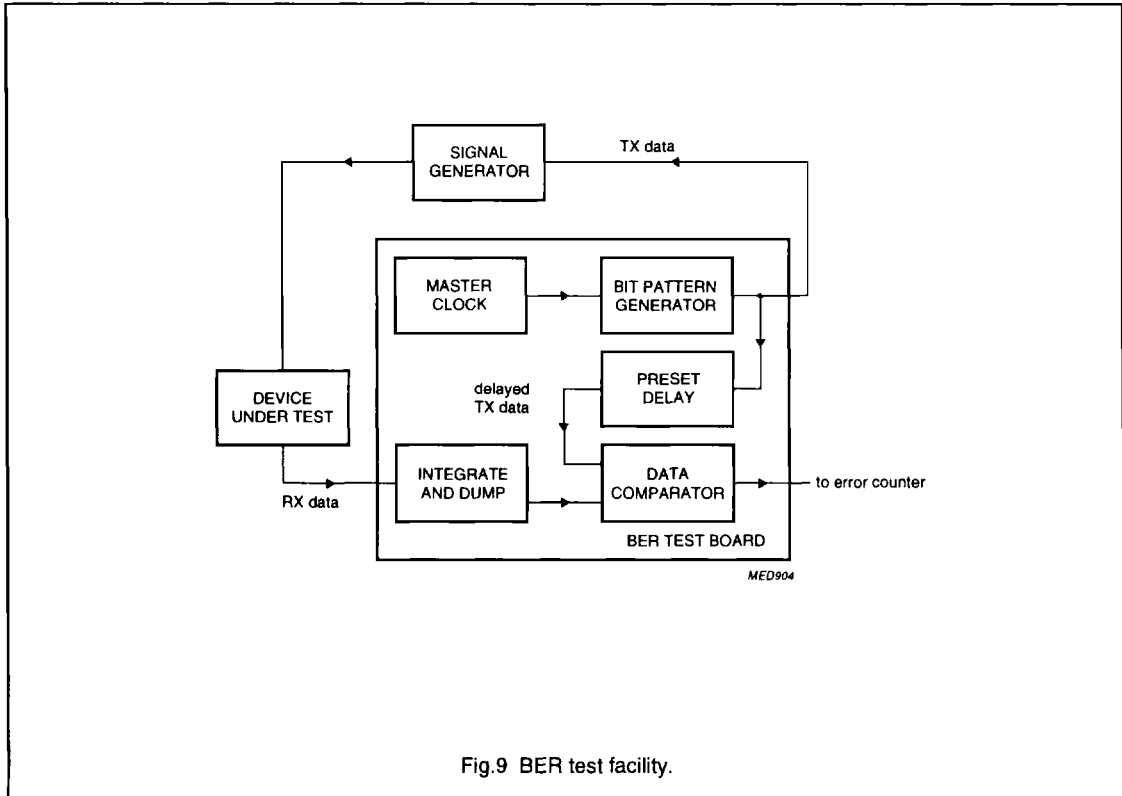

Fig.9 BER test facility.
1. P_{ref} is the maximum available power at the input of the test board. The Bit Error Rate (BER) is measured using the test facility shown in Fig.9.